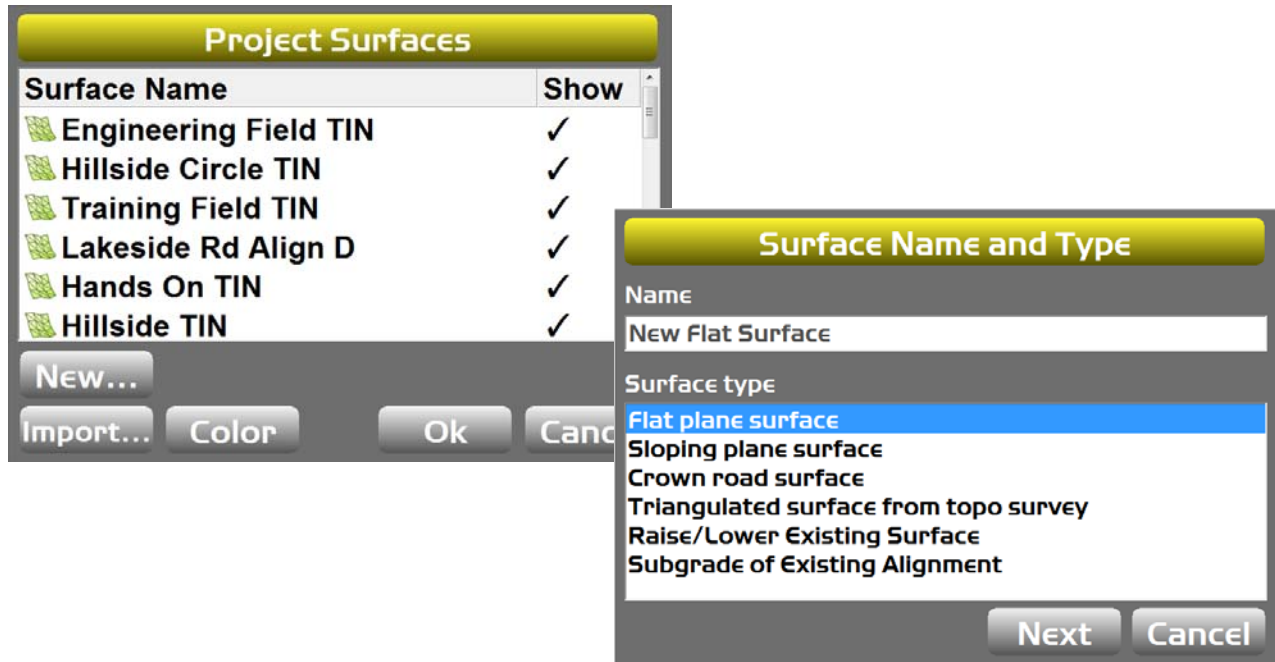
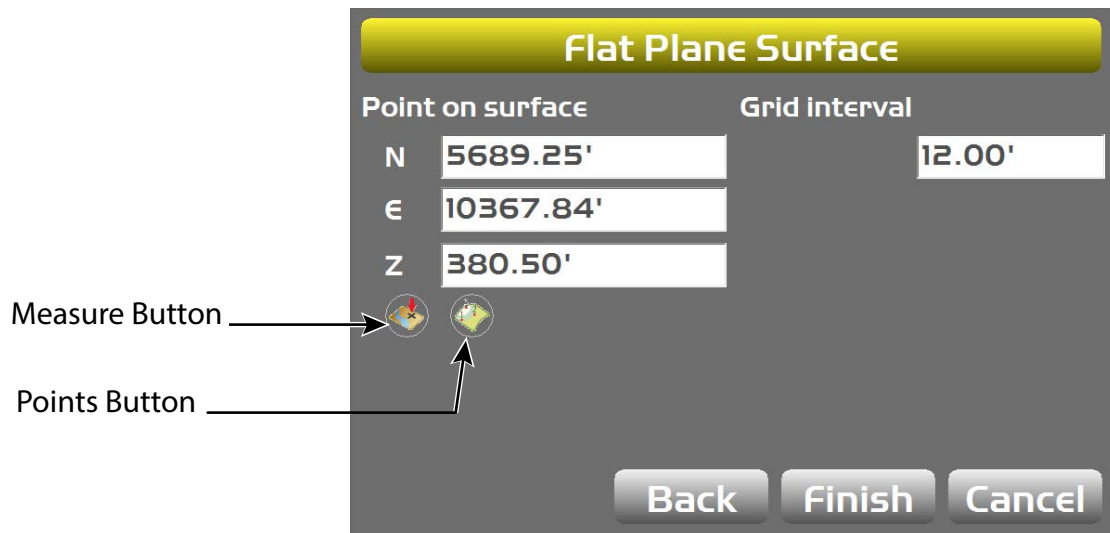

Figure 32: Project Surfaces Screen – New Flat Surface
Figure 33: Flat Plane Surface Screen
4. Select **Flat plane surface** and tap **Next** (Figure 32). The **Flat Plane Surface** screen appears (Figure 33 on page 26).